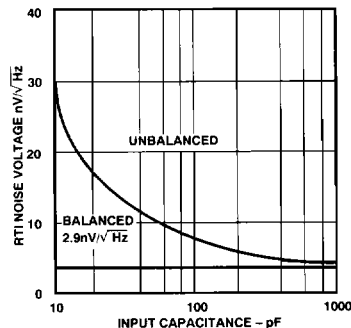
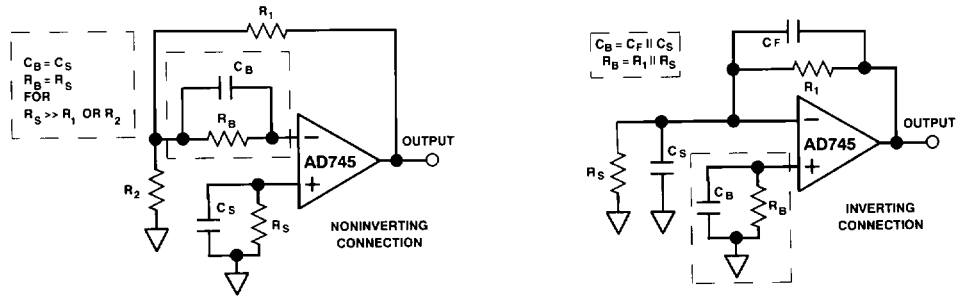

Figure 39. RTI Noise Voltage vs. Input Capacitance
Figure 40. Optional External Components for Balancing Source Impedances
As mentioned previously, it is good practice to balance the source impedances (both resistive and reactive) as seen by the inputs of the AD745. Balancing the resistive components will optimize dc performance over temperature because balancing will mitigate the effects of any bias current errors. Balancing input capacitance will minimize ac response errors due to the amplifier's input capacitance and, as shown in Figure 39, noise performance will be optimized. Figure 40 shows the required external components for noninverting (A) and inverting (B) configurations.